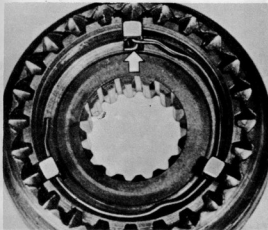

Fig. 6.6. Location of synchroniser springs (Sec. 6)
- 12 Take the synchroniser hub and position the two springs so that the turned ends project into the same key slot (Fig. 6.6). Note that the springs should run in opposite directions.
- 13 The three keys should be put in their slots in the synchroniser hub, so that the arrows embossed on the key point to the shifter fork groove in the synchroniser ring (Fig. 6.7). The key which has been hollowed out should be located in the hub slot so that the spring turned ends project into the key (Fig. 6.6).